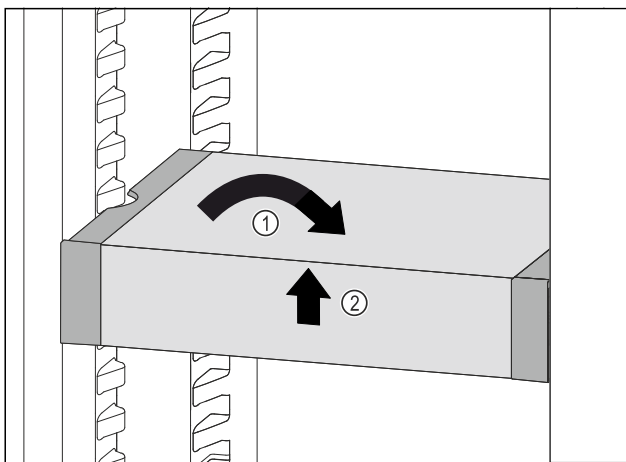

Fig. 170
- ▶ Set VarioSafe straight. Fig. 170 (1)
- ▶ Lift VarioSafe at the front. Fig. 170 (2)